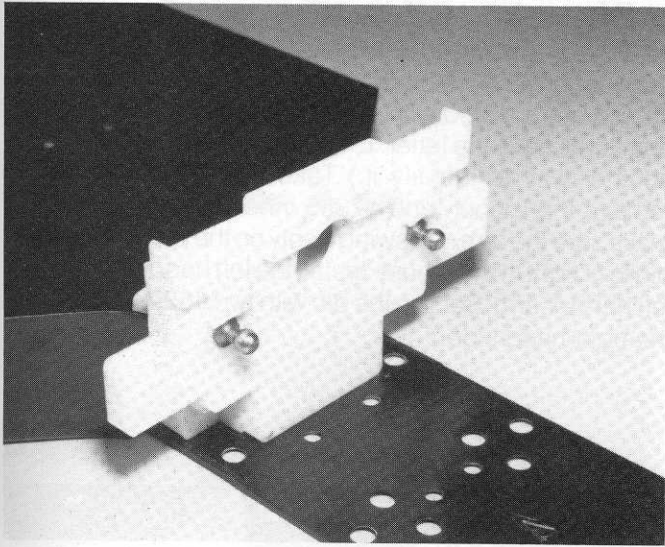

**Fig. 78**
□ **Fig. 78** Remove the #6323 rear bulkhead from Bag 7-4 and install two #6273 steel ball ends with long threads where shown.